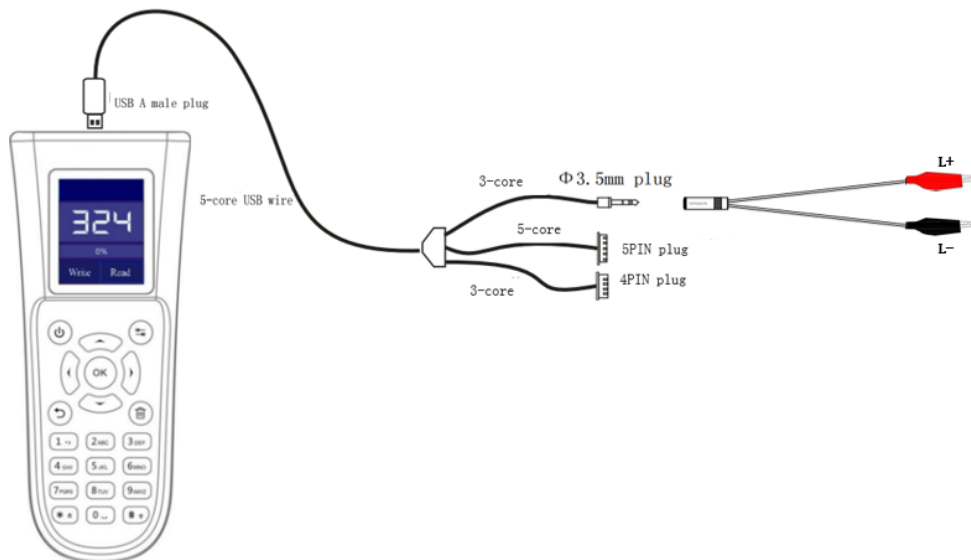

Figure 4-5
(4) Insert the Φ3.5mm earphone plug into the adapter with Crocodile clip, The bus terminal of Addressable devices such as detectors, modules or sounder can be used to write/read addresses, as shown in Figure 4-5: